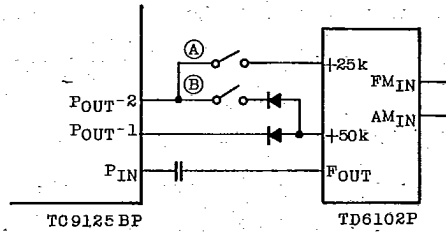

FIG. 9 CONNECTION FOR IF FINE ADJUSTMENT
- 3) Fig. 9 illustrates the connection of IF fine adjustment with 50 kHz channel step.
- 4) The connections to perform seven kinds of IF fine adjustments in Fig. 9 are as shown in Table 6.